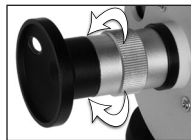

Figure 2
6. Observe the field of view through the eyepiece and rotate the eyepiece focus adjustment (figure 2) until the edges of the round field of view are sharply focused.